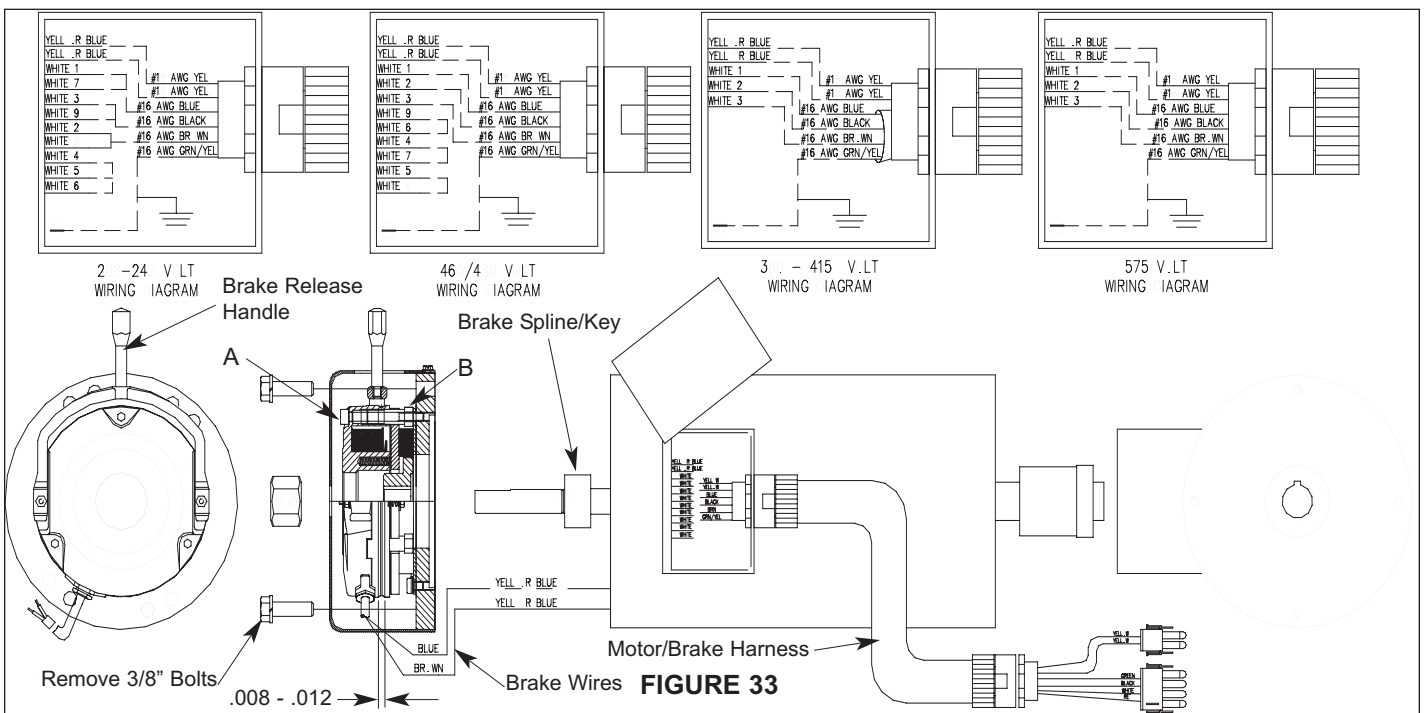

FIGURE 33
2. Check the air gap with a feeler gauge in three positions. Note: the air gap is shown in **Figure 33**. The normal setting is .008" - .012". When the maximum dimension of .024" is exceeded, adjust the value back to the normal dimension of .008" - .012" using the instruction in **Step 3**.
3. If air gap adjustment is necessary, loosen the bolts (A), rotate the adjustment tubes (B) approximately 1/4 turn, retighten bolts (A), and measure the air gap. If air gap is not within tolerance, repeat procedure.
2. Loosen the brake release handle by unscrewing it, then loosen, the the three holding the cover to the brake, **Figure 33**.
7. Thread the (2) 3/8" bolts thru the brake and into the motor, torque to 22 lb/ft and reconnect the blue and brown brake wires to the blue or yellow motor wires. Polarity is not important. Brake handle and motor junction box should be lined up.